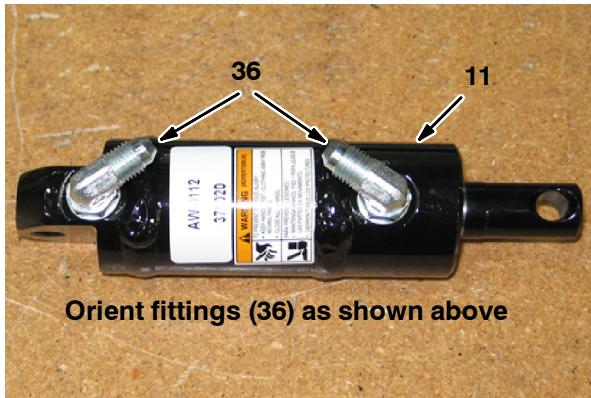

FIG. 3
11. Install two 90° fittings (36) onto the hydraulic cylinder (11). Fittings must be oriented as shown in Fig. 3.